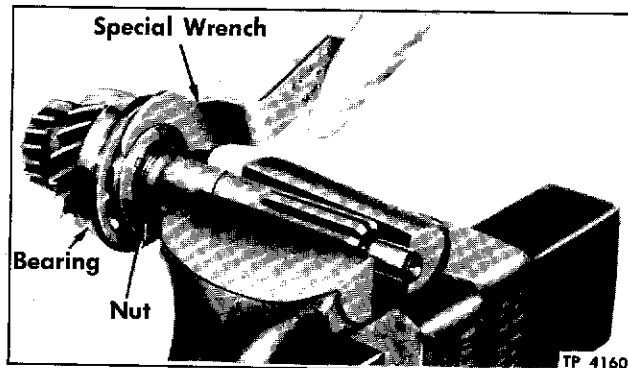

Figure 10—Removing Drive Gear Bearing Retaining Nut
1. Place the gear in a vise with soft jaws, and remove the bearing retainer nut and oil slinger, using bearing nut wrench (J-933-01) (fig. 10). The retaining nut and oil slinger is a one piece steel casting machined with a left-handed thread and is locked in place on the gear-shaft by being staked into a hole provided for that purpose.